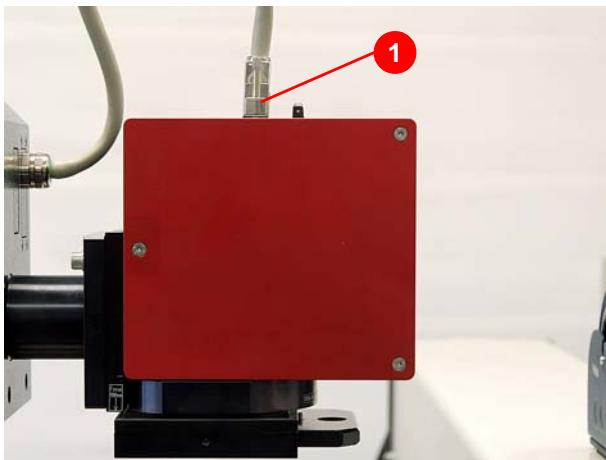

Figure 8.24 Galvo head connecting plug
1. Loosen and remove the connecting plug of the galvo head (1) (Figure 8.24).